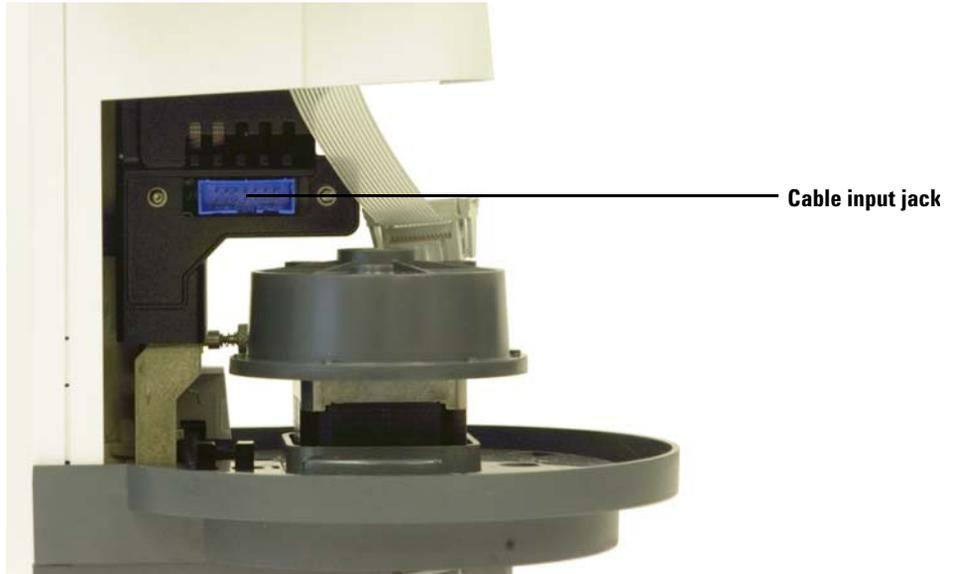

Figure 63 Accessing the cable input jack
- 10** Slide the syringe carrier assembly completely down until the cable input jack on the assembly is accessible below the Tower casing (Figure 63).